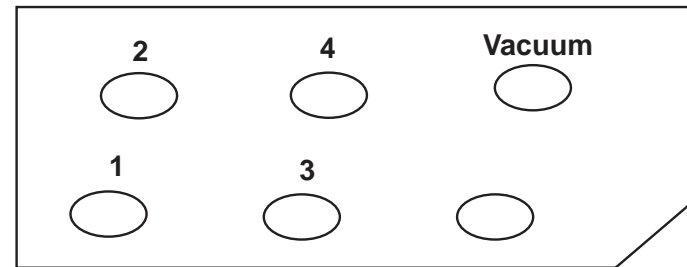

Figure B-1: Internal Manifold (Front/Top Edge)
- Connect tube “A” exiting top of flowmeter to vacuum supply (See **Figure B-1**)